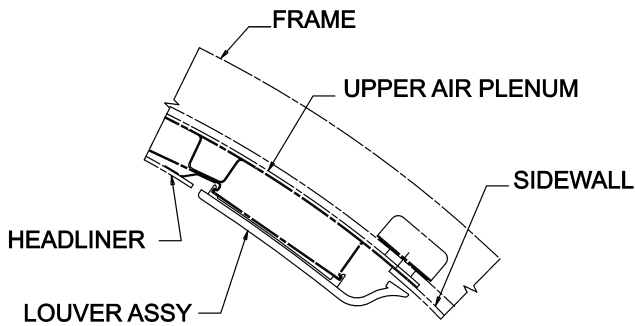

Fig. 210 - Louver - Location
14. Louver - Removal (Ref. to Fig. 210)
15. Louver - Installation (Ref. to Fig. 210)